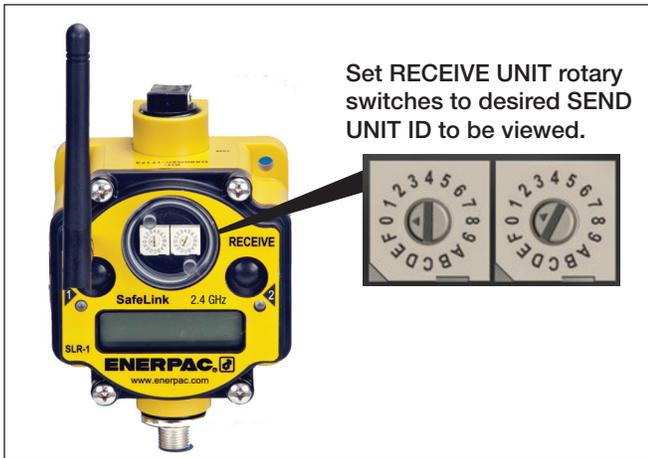

Figure 14, Selecting Send Unit to be Viewed by SLR Receive Unit
1. On the SLR receive unit, Set the rotary switches to the ID number of the desired send unit to be viewed. See Figure 14.